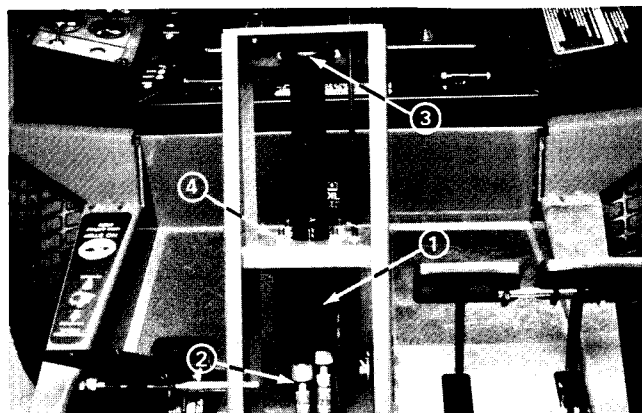

Figure 15
3. Clean the outside of the steering valve and the area around the hydraulic fittings. Disconnect the hydraulic hoses and tube lines from the steering valve (Fig. 15). Put caps or plugs on all the fittings and hoses and tubes to prevent contamination.